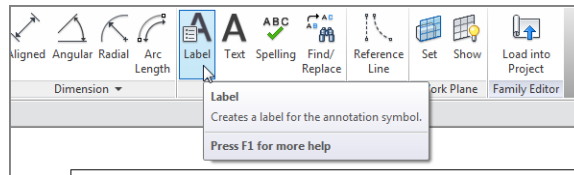

FIGURE 14.27: Clicking Label on the Create tab
4. On the Text panel of the Create tab, click **Label**, as shown in Figure 14.27.